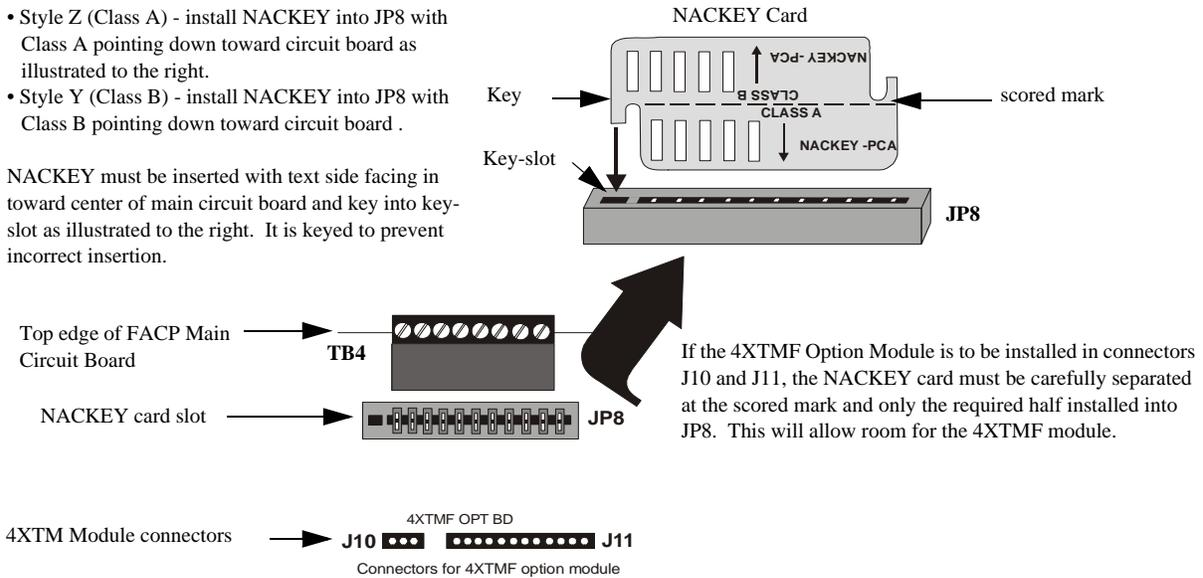

Figure 2.6 NAC Configuration Using NACKEY
The Notification Appliance Circuits on the main circuit board are configured for Style Y or Style Z by properly orienting the NACKEY card in JP8 which is located at the top of the main circuit board near the NAC Terminal TB4. The default configuration is for Style Y (Class B). Refer to Figure 2.6 for information on installing the NACKEY card.
3. The NACKEY Card must be separated at the score mark to allow connection of the 4XTMF module (refer to Figure 2.6 on page 48 for complete information)